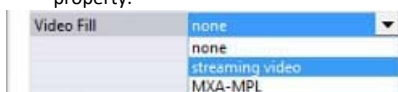

Fig. 167 TPDesign5 - Video Fill (State) property
9. In the desired state tab, set the *Video Fill* property to **streaming video** (FIG. 167). Note that this selection enables the *Streaming Source* property.